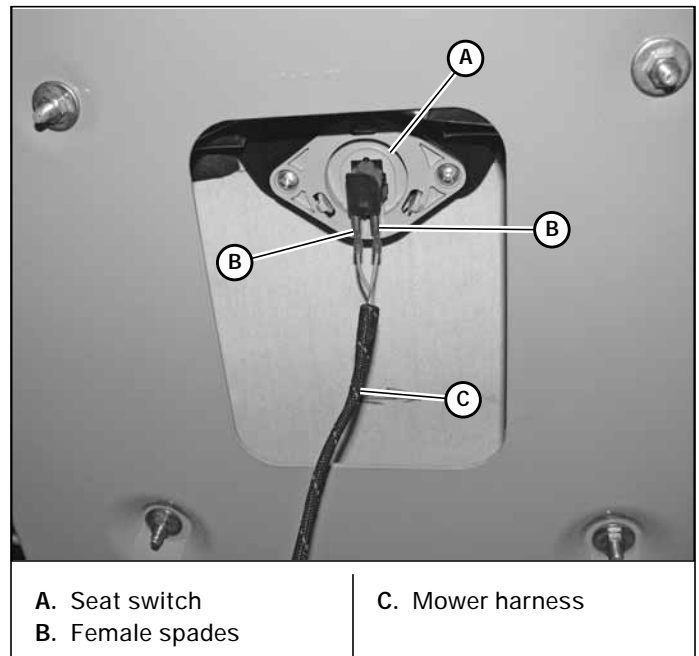

Figure 4-7
- Bypass the seat switch by connecting the two mower harness female spades together .Figure 4-7